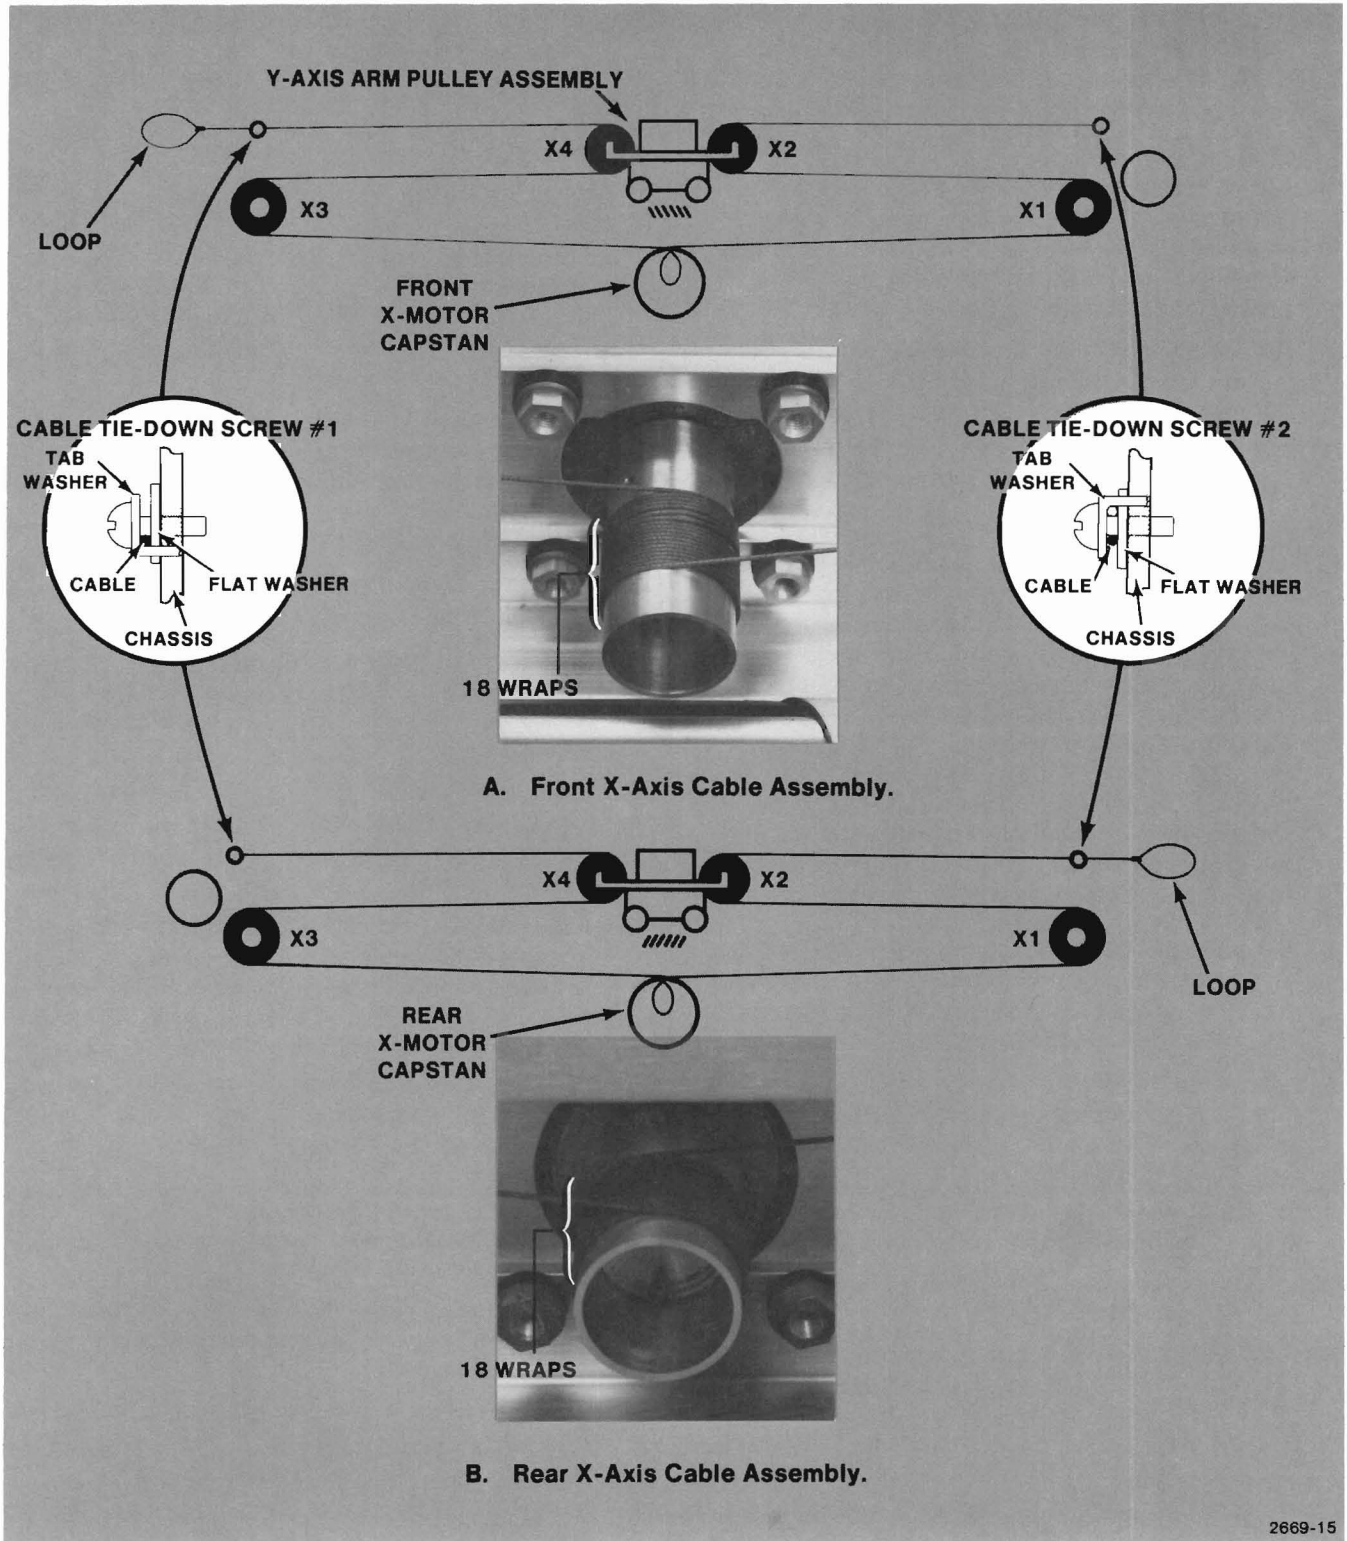

Figure 3-4. X-Axis Cable Diagram.
5. Thread the end of the cable (which was just wound 17 turns CW) around pulleys X1 and X2 (see Figure 3-4).
6. Run the cable between the tab washer and the flat washer of the cable tie-down screw #2. The cable should pass under the screw, and the tab should be rotated CW around the screw as far as possible before it touches the edge of the chassis (see inset on Figure 3-4).
7. Take the other end of the cable (with the single CCW wrap around the capstan) and string it around pulleys X3 and X4 (see Figure 3-4).
9. If the cable does not have a loop on this end, tie a loop (Bowline knot preferred) in the cable about six inches from the cable tie-down screw #1 (see Figure 3-4).
5. Thread the end of the cable (which was just wound 17 turns CCW) around pulleys X3 and X4 (see Figure 3-4).
6. Run the cable between the tab washer and the flat washer of the cable tie-down screw #1. The cable should pass under the screw, and the tab should be rotated CW around the screw as far as possible before it touches the edge of the chassis (see inset on Figure 3-4).
7. Take the other end of the cable (with the single CW wrap around the capstan) and string it around pulleys X1 and X2 (see Figure 3-4).
9. If the cable does not have a loop on the end, tie a loop (Bowline knot preferred) in the cable about six inches from the cable tie-down screw #2 (see Figure 3-4).